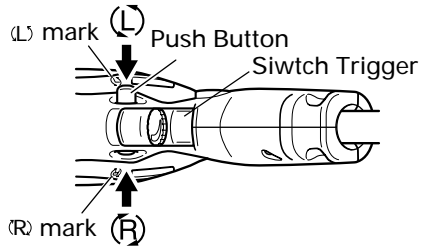

Fig. 5
9. Check the rotational direction (Fig. 5)